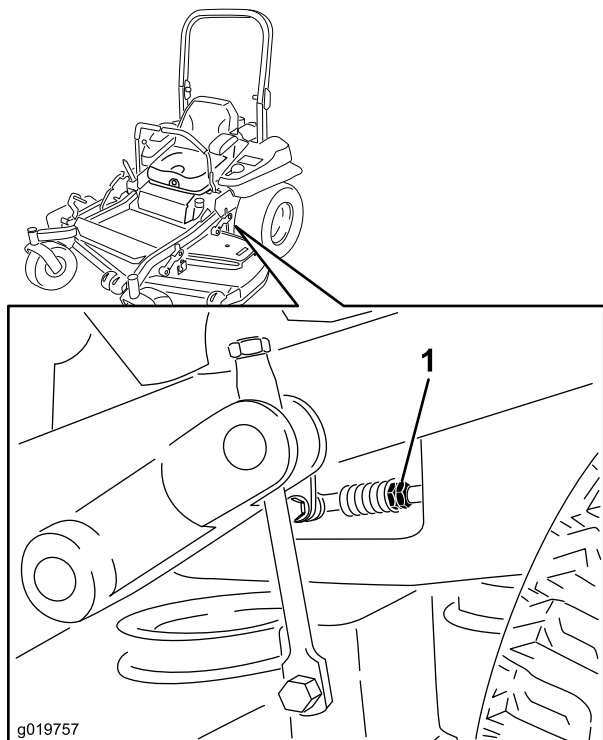

Figure 83
7. Bring the motion control levers into the neutral position. Adjust the pump control rod lengths by rotating the double nuts on the rod in the appropriate direction until the wheels slightly creep in reverse (Figure 83). Move the motion control levers to the reverse position and while applying slight pressure to the lever allow the reverse indicator springs to bring the levers back to neutral. The wheels must stop turning or slightly creep in reverse.